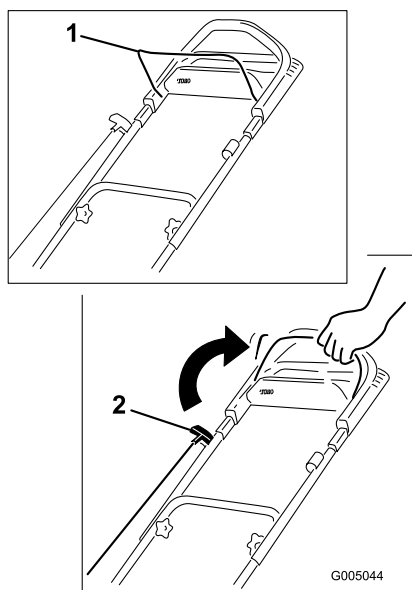

Figure 14
2. Hold the blade control bar against the handle (Figure 14).